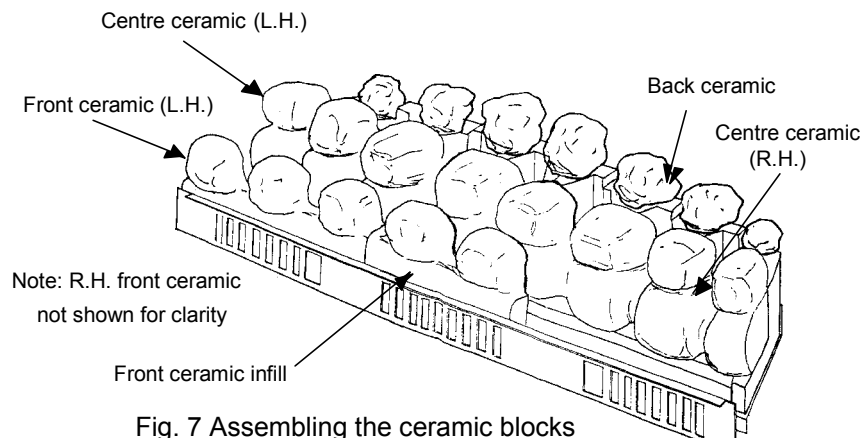

Fig. 7 Assembling the ceramic blocks
3. The ceramic components are fragile and should be handled with care. Refer to Figs. 7 and 8 for positioning of ceramic fibre blocks and coals.